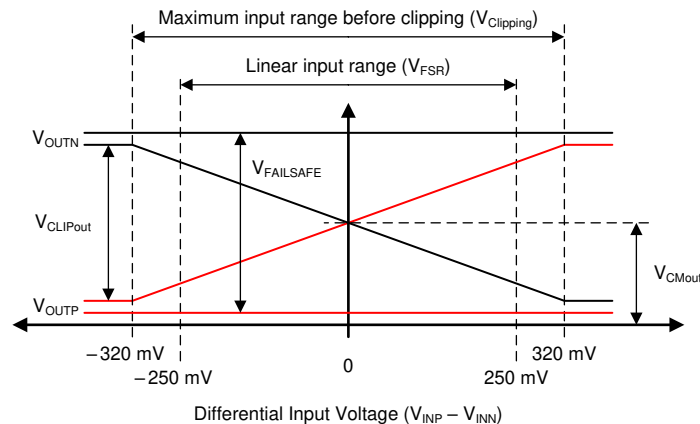

图 7-2. Output Behavior of the AMC3301
The AMC3301 offers a differential analog output comprised of the OUTP and OUTN pins. For differential input voltages ($V_{INP} - V_{INN}$) in the range from -250 mV to $+250\text{ mV}$, the device provides a linear response with a nominal gain of 8.2. For example, for a differential input voltage of 250 mV , the differential output voltage ($V_{OUTP} - V_{OUTN}$) is 2.05 V . At zero input (INP shorted to INN), both pins output the same common-mode output voltage V_{CMout} , as specified in the Electrical Characteristics table. For absolute differential input voltages greater than 250 mV but less than 320 mV , the differential output voltage continues to increase in magnitude but with reduced linearity performance. The outputs saturate at a differential output voltage of $V_{CLIPout}$ as shown in Figure 7-2 if the differential input voltage exceeds the $V_{Clipping}$ value.
The AMC3301 provides a fail-safe output that simplifies diagnostics on system level. Figure 7-2 shows the fail-safe mode, in which the AMC3301 outputs a negative differential output voltage that does not occur under normal operating conditions. The fail-safe output is active in two cases:
- The low-side does not receive data from the high-side (for example, because of a loss of power on the high side). In this case, the amplifier outputs are driven to the V_{FAILSAFE} value that is shown in Figure 7-2.
- The high-side DC/DC output voltage (DCDC_OUT) or the high-side LDO output voltage (HLDO_OUT) drop below their respective undervoltage detection thresholds (brown-out). In this case, the low-side may still receive data from the high-side but the data may not be valid. The amplifier outputs are driven to the V_{FAILSAFE} value that is shown in Figure 7-2.